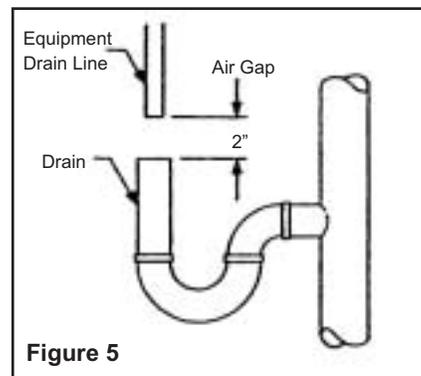

Figure 5
4. Solder or solvent weld plumbing. Do not apply heat to any fitting connected to control valve as damage may result to internal parts. Check to be certain water supply pipe is connected to control valve inlet fitting, and pipe connected to control valve outlet fitting is in direction of house service (see Fig. 5).
6. Position drain hose over drain and secure firmly. To prevent back-siphoning of sewer water, provide an air gap to code or equivalent. (Fig. 5) Do not raise drain hose more than 10 ft. above floor.